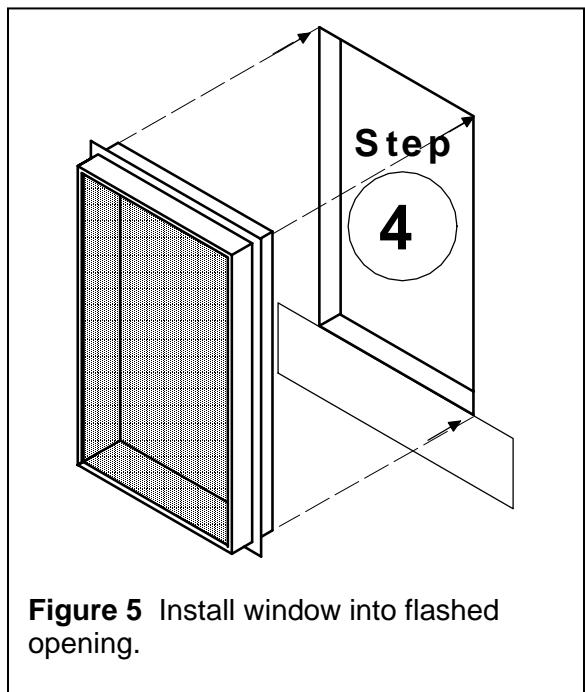

Figure 5 Install window into flashed opening.
Step 4. Install window in opening (see Figure 5).